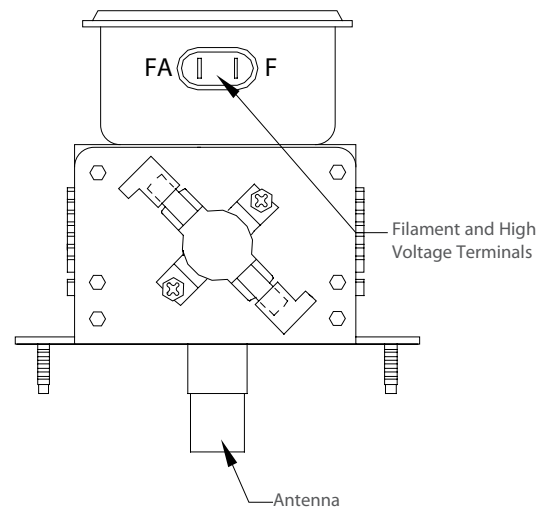

Figure 41: Magnetron Detail
2. Isolate the magnetron from the circuit by removing the wires from the F and FA terminals (Figure 41).
3. An ohmmeter connected between the filament terminals (F, FA) should indicate a reading of less than 1 ohm (Figure 41).